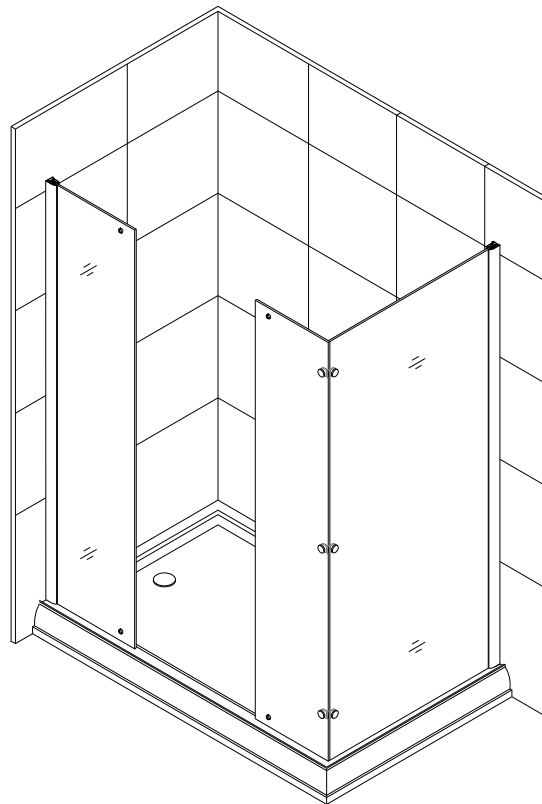
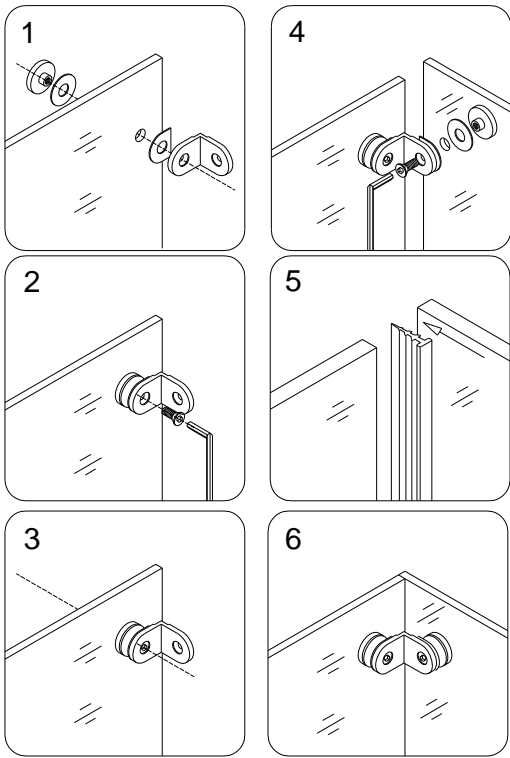

Fig 4
Fig 5
4. Install the **Glass brackets (7)** onto the **Stationary glass 2 (04)** and the **Stationary glass 3 (05)**. Upper edge of the both stationary glass panels should be on the same level. Push on the seal between the stationary glass 2 and the stationary glass 3. See Fig 4 and Fig 5 for details. You can use the silicone caulk instead **Single side strip (15)**, but do it in the **step 15**.